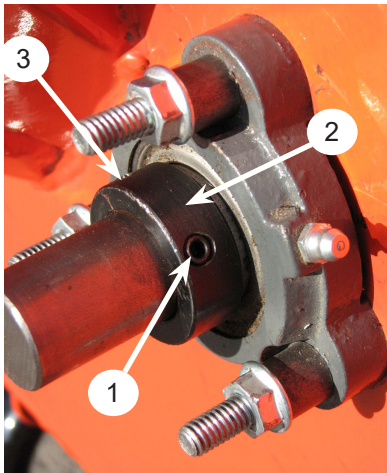

Figure 5.7, Rotor Bearing
2. Loosen the set screws (1) holding the lock collars (2) on the chute side and engine side bearings.
3. Use a punch and hammer in punch hole (3) to tap the lock collars in the opposite direction of normal rotation (Figure 5.7).
2. Loosen the set screws on the lock collar securing the chute side bearing on the rotor shaft. See Figure 5.7.